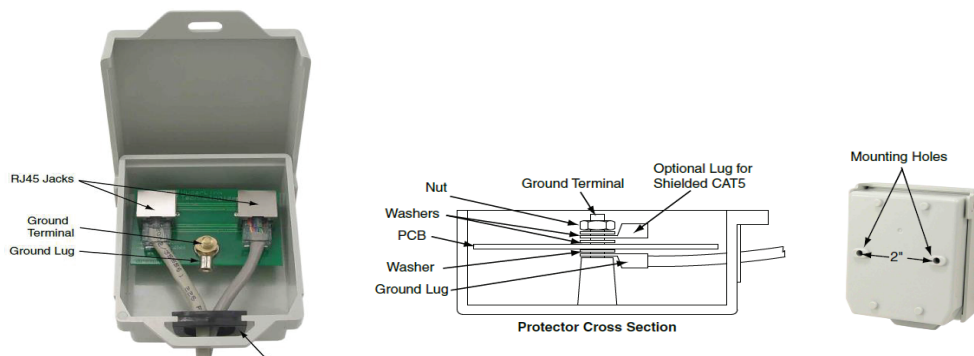

Fig. 4.5
- If the RT7000 is mounted outside on an exterior wall, a surge protector/lightning arrestor must be used, see Fig. 4.5. The ground lug supports up to 12 AWG wire but check with your municipality for local codes on appropriate grounding. With bidirectional protection, either RJ45 jack can be used. Contact HME if one or more are required.